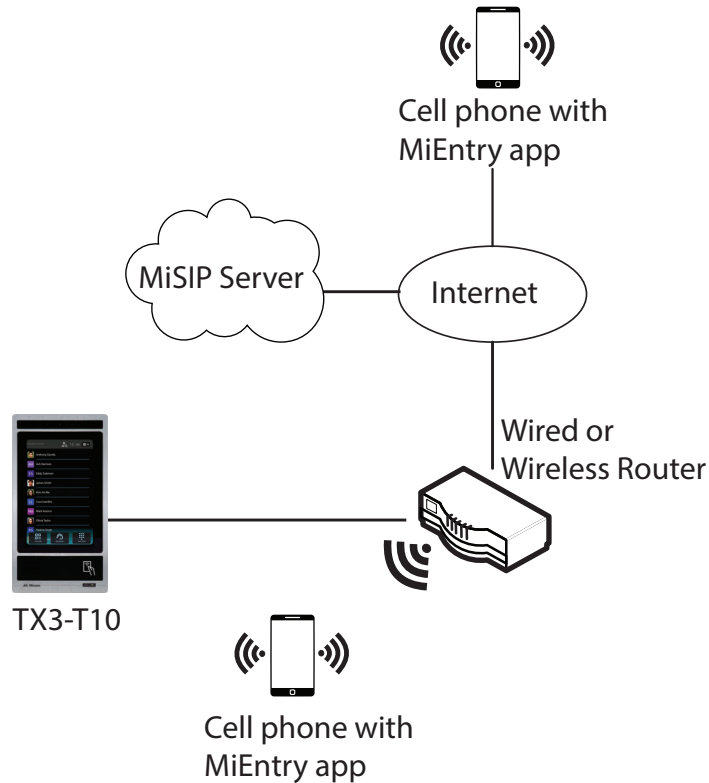

Figure 3. VOIP Call with Mircom SIP Service and MiEntry
- Figure 3. VOIP Call with Mircom SIP Service and MiEntry 8